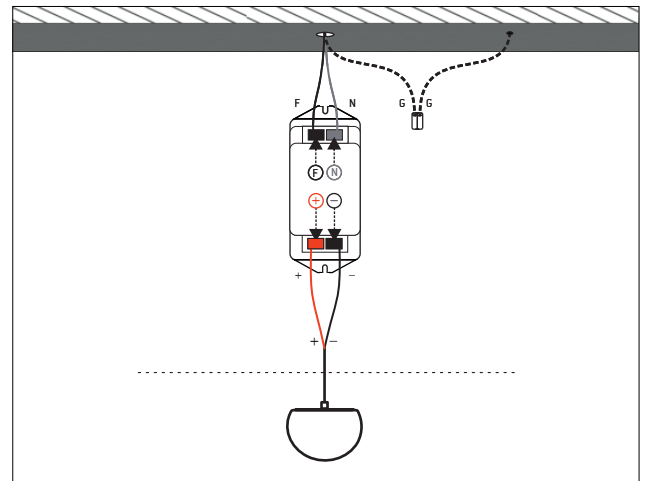

Figure 6A
- 6 - Make the electrical connections following the connection scheme. Figure 6A